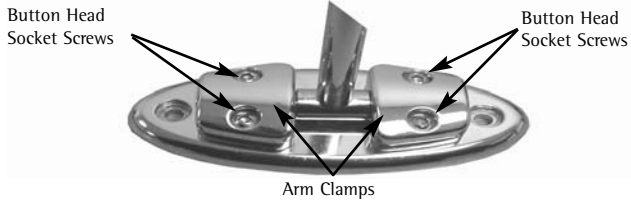

Figure 1. Arm Clamp Removal
2. Take the arm clamps off by removing the four (4) socket button head screws. Use the supplied Allen wrench (Figure 1).